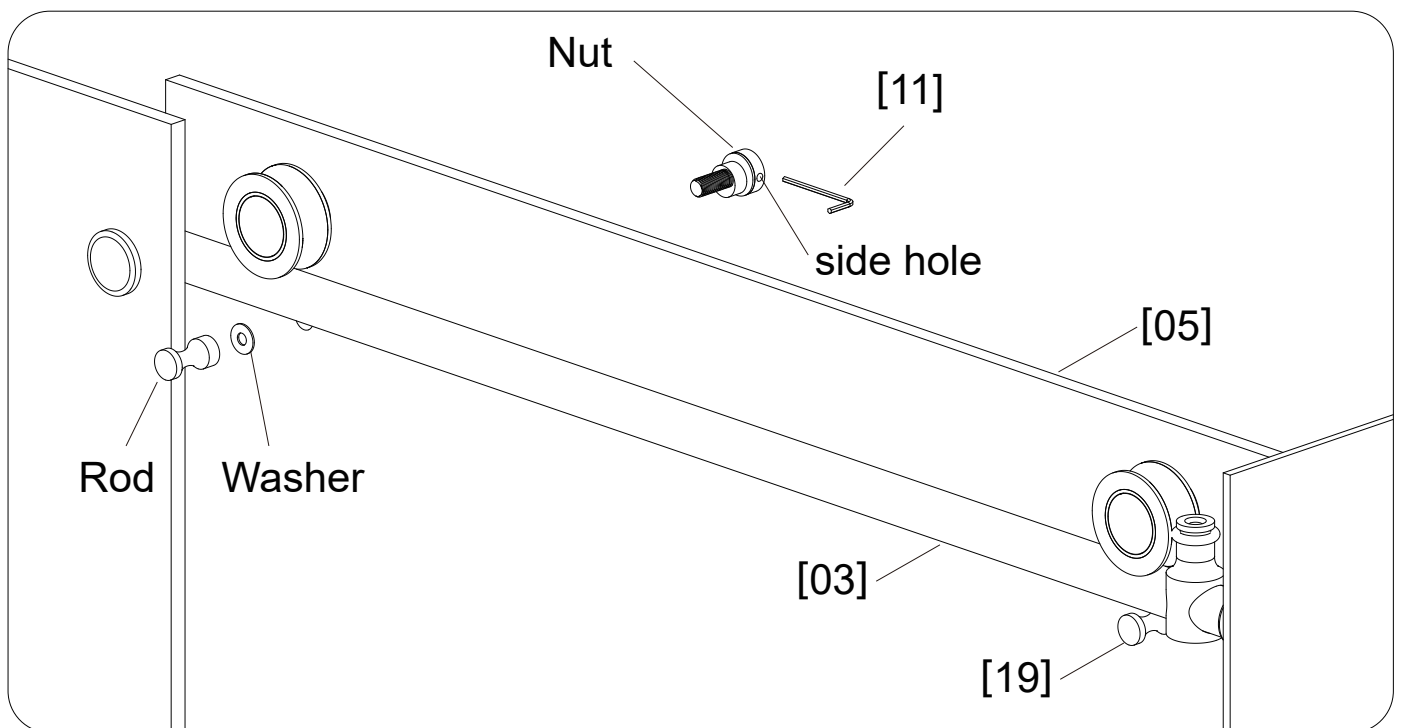

Fig 10
1. Disassemble the **Roller Guards [19]** and install it to the **Door [05]** as the figure shows. (Fig 10)